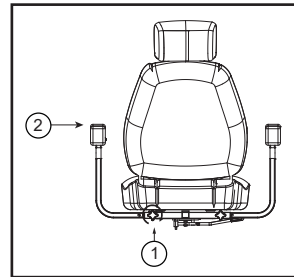

Figure 12
- Move the armrests to the desired position and re-tighten the adjustable screws, changing the space between armrests (see figure 12).